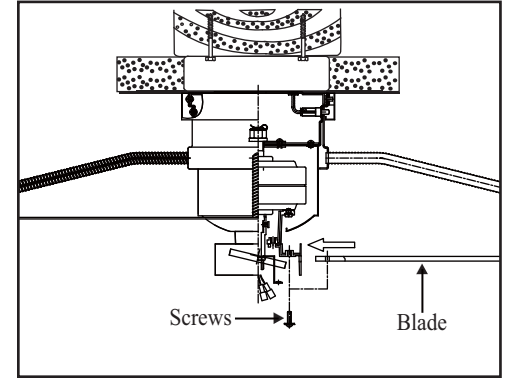

Figure 11
1. Insert the blade through the slot in the blade holder. Align the holes in the blade and the fan blade holder and secure with a the screw and fiber washer. (Fig. 11)